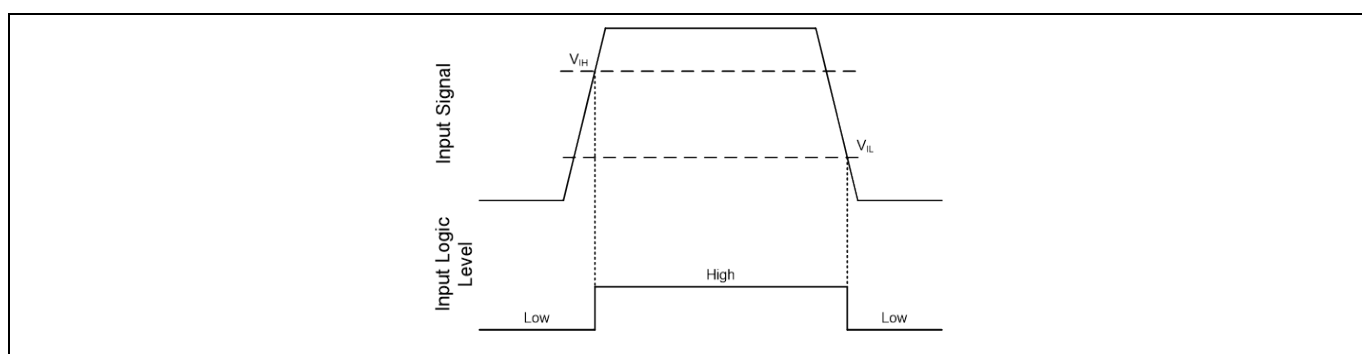

Figure 10 HIN & /LIN input thresholds
The input pins are based on a TTL and CMOS compatible input-threshold logic that is independent of the V_{CC} supply voltage. Figure 10 illustrates an input signal to the 2ED2108 (4) S06F (J), its input threshold values, and the logic state of the IC as a result of the input signal. The typical high threshold (V_{IH}) of 2.1 V and typical low threshold (V_{IL}) of 0.9 V. The input pins are conveniently driven with logic level PWM control signals derived from 3.3 V and 5 V digital power-controller devices. Wider hysteresis (typically 0.9 V) offers enhanced noise immunity compared to traditional TTL logic implementations, where the hysteresis is typically less than 0.5 V. 2ED2108 (4) S06F (J) also features tight control of the input pin threshold voltage levels which eases system design considerations and ensures stable operation across temperature. The 2ED2108 (4) S06F (J) has input pins that are capable of sustaining voltages higher than the bias voltage applied on the V_{CC} pin of the device.